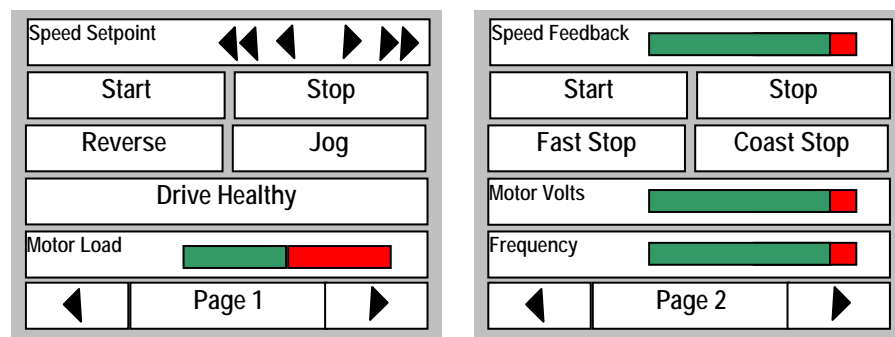

Figure 3
6. Similarly, insert the other blocks required and connect them together as shown in Figure 3, to complete the configuration.